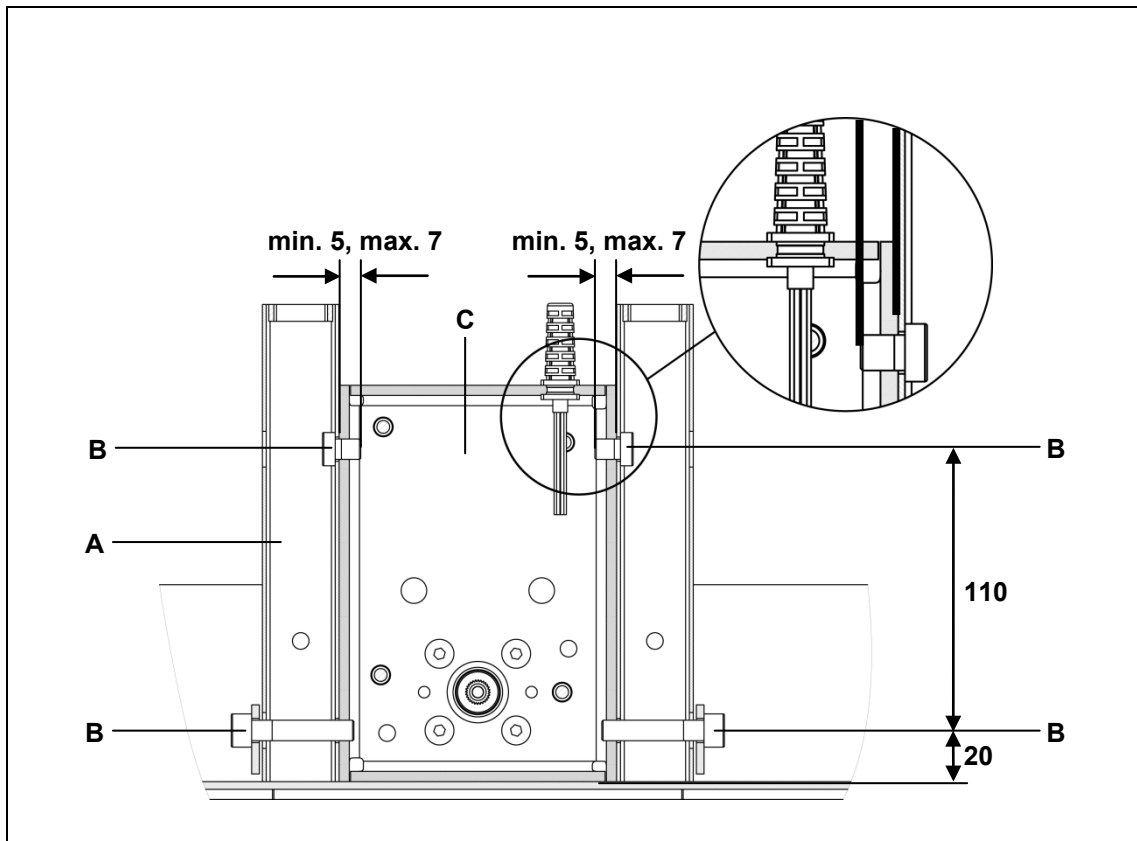
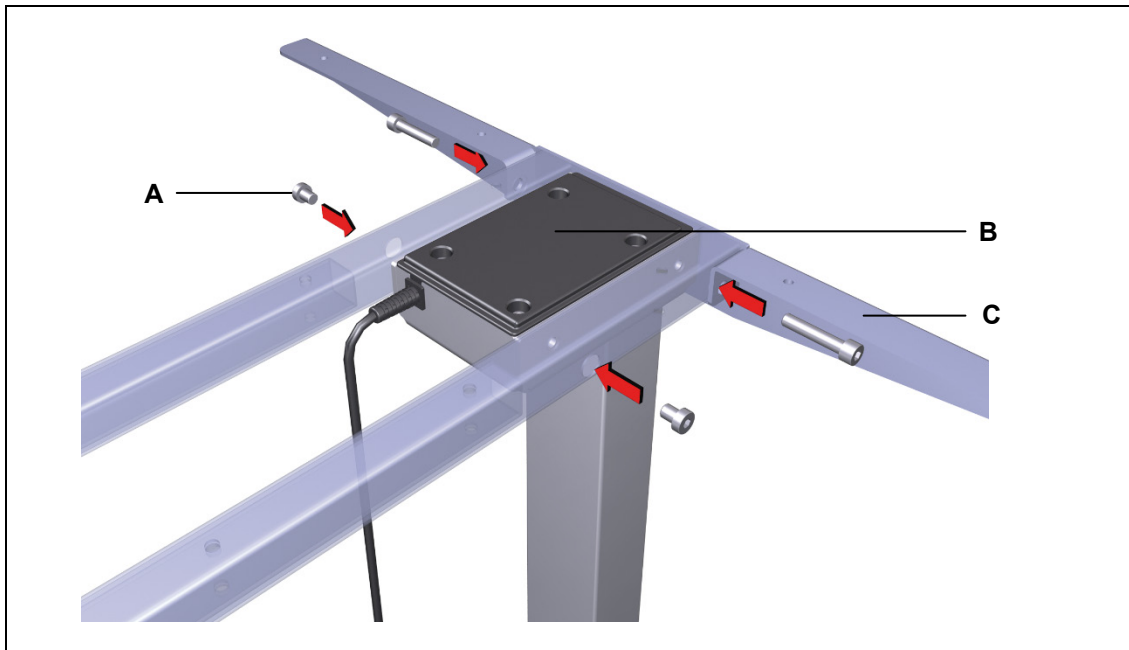

Figure 11 Example: Mounting the table frame (dimensions in mm)
Figure 12 Example: Mounting the table frame
- ▶ Use M8 bolts (with strength grade 8.8), as shown in Figure 11. The tightening torque must not exceed 20 Nm.
- 1 Set the table frame so that the holes are over the lifting column. Use four screws to attach the table frame to the motor housing of the lifting column, as shown in Figure 12 (maximum tightening torque is 20 Nm). The mounting dimensions are shown in Figure 11.